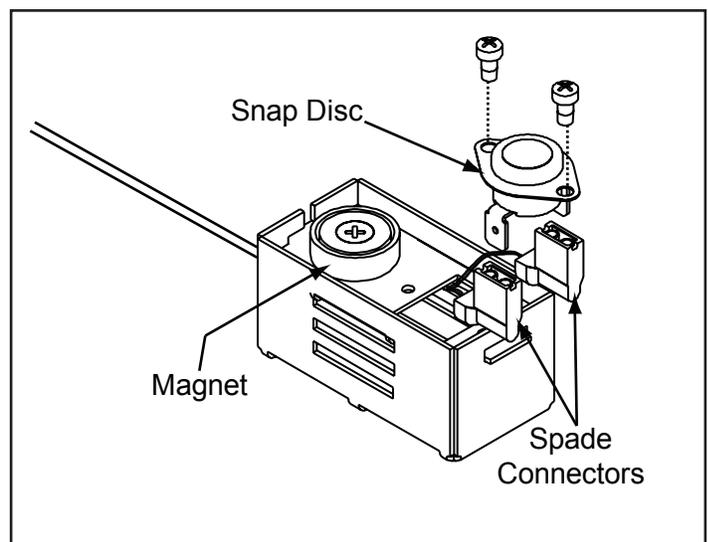

Figure 22.2
3. Pull the snap disc and spade connectors up and out of bracket as shown in **Figure 22.2.**